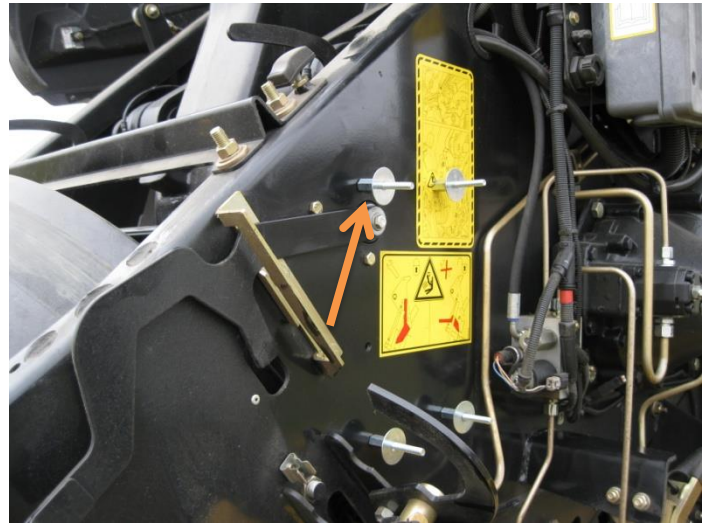

Figure 6
4. Use four 5/16" x 3" hex bolts with four flat washers (positioning bolt heads on the inside of the baler frame) and secure to the baler with four 1 1/8" threaded standoffs that will be on the outside of the baler frame, Position four fender washers between the DCP and standoffs (Figure 6.)